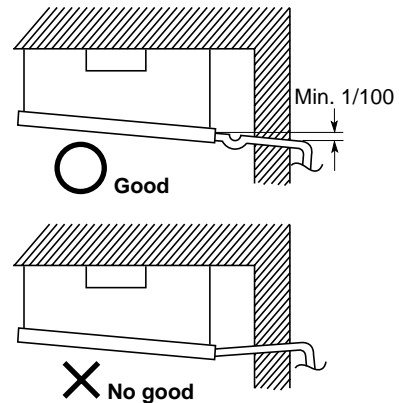

Fig. 3-102
- (2) After connecting the drain pipe securely, be sure to wrap the insulator (field supply) around the pipe.
- (3) Be sure the drain pipe has a downward gradient (1/100 or more) and prepare traps as indicated in the right figure. (Fig. 3-102)